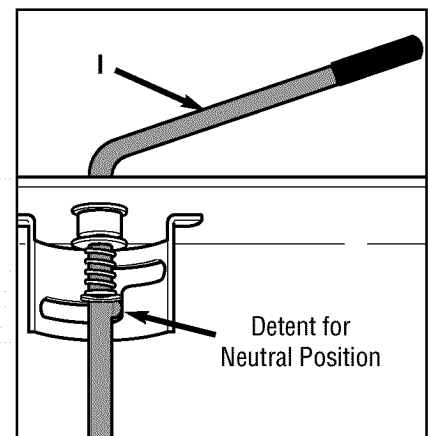
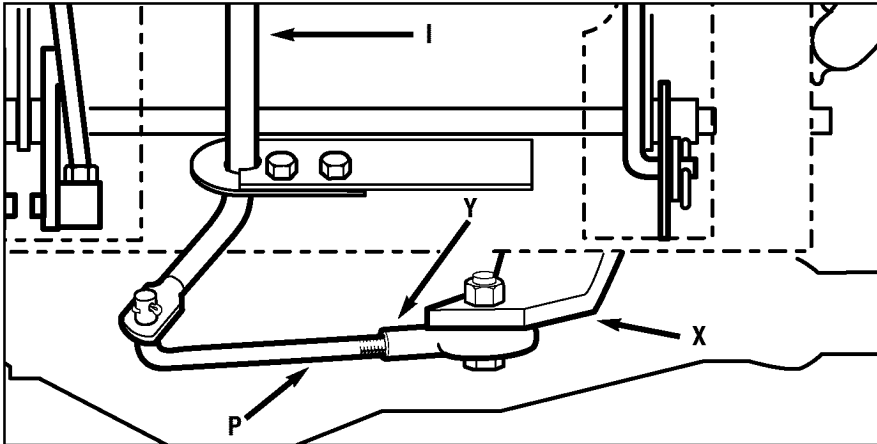

Figure 5-14: Lever in neutral (N) position.
Figure 5-15: Transmission neutral (N) adjustment.
2. Rotate shift rod (I, Figures 5-14 and
4. Remove cotter pin securing shift link (P, Figure 5-15) to shift rod (I).
5. Move shift arm (X) back and forth as necessary into each detent until transmission is in neutral. NOTE: Moving shift arm (X) clockwise all the way to the left, and then one notch back counter-clockwise, should put transmission into neutral. When transmission is in neutral, unit will move freely when pushed while holding the Operator Presence Control lever down. If transmission is NOT in neutral, there will be a slight drag on the wheels when pushing unit.
6. When shift arm (X) is in neutral position, rotate shift link (P) until hooked end fits back into hole in bottom end of shift rod (I). NOTE: Shift rod (I) must be held in the neutral position (see Figure 5-14) while shift link (P) is adjusted.
7. Secure shift link (P) into shift rod (I) with cotter pin removed earlier.
8. Re-check neutral by pushing unit back and forth and shifting lever (I) from reverse to neutral. A small fine-tune adjustment may be required.